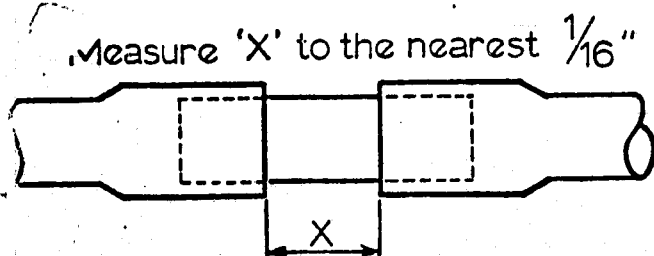

Figure 2
b) Accurately measure the distance between the swedges. (The length of the exposed connecting nipple) See Fig. 2.